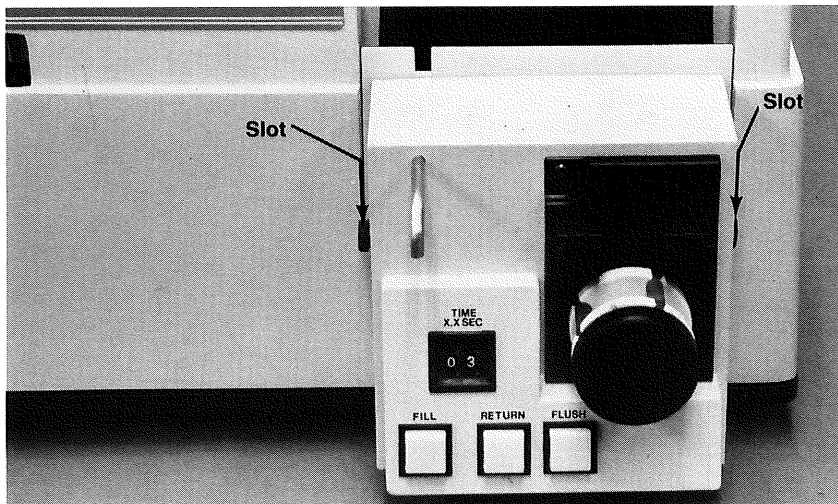

Figure 3.
3. Install the sipper panel by sliding it into the slots and pressing down firmly to seat. See Figure 3.